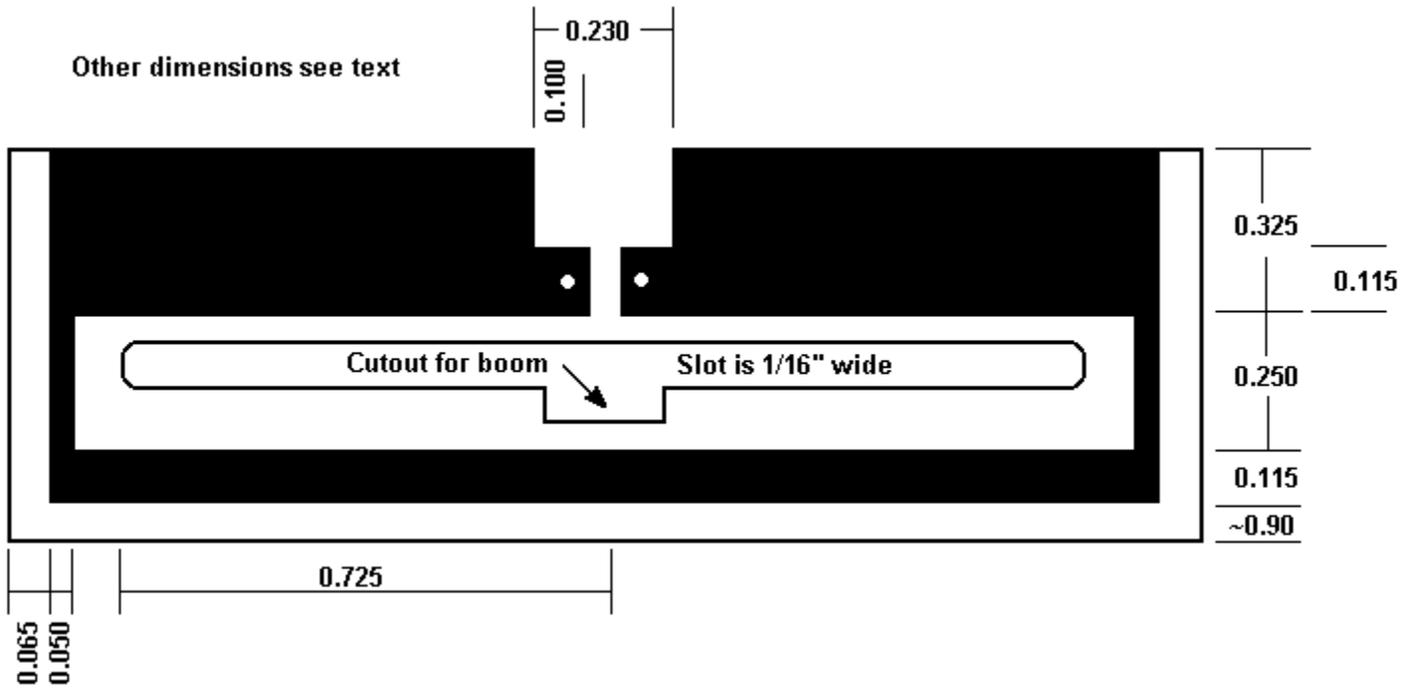

FIGURE 5: DRIVEN ELEMENT DIMENSIONS. SEE TEXT FOR DETAILS.
Figure 5 shows the etching dimensions of the Driven Element (DE) as best I can measure with a micrometer and magnifying glass. The DE is made from a piece of cream-colored, ceramic-like PC Board material (perhaps Rogers Duroid) $1/32$ -in. thick. It is exactly 2 inches wide and 0.780 inches high. There is a $1/16$ -in. slot machined into the element used to allow the DE to be slid into position on the solid boom between the reflector and first director. Once in position, there is another slot, $1/4$ in. x $1/16$ in., into which the boom rests. A $1/16$ -in. thick piece of plastic helps position and lock in the DE relative to the reflector and also serves to support the coaxial feed line. It seems to me that one could use ordinary glass-epoxy material if you are willing to sacrifice some efficiency and gain.